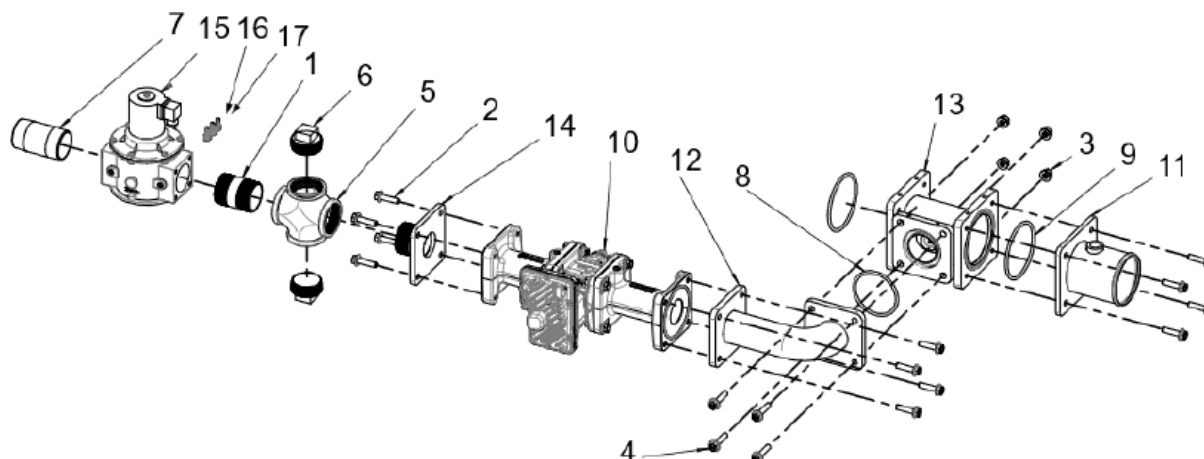
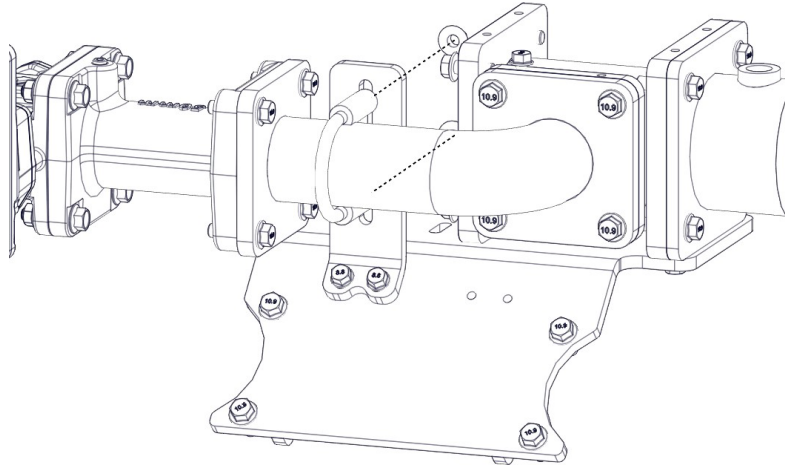
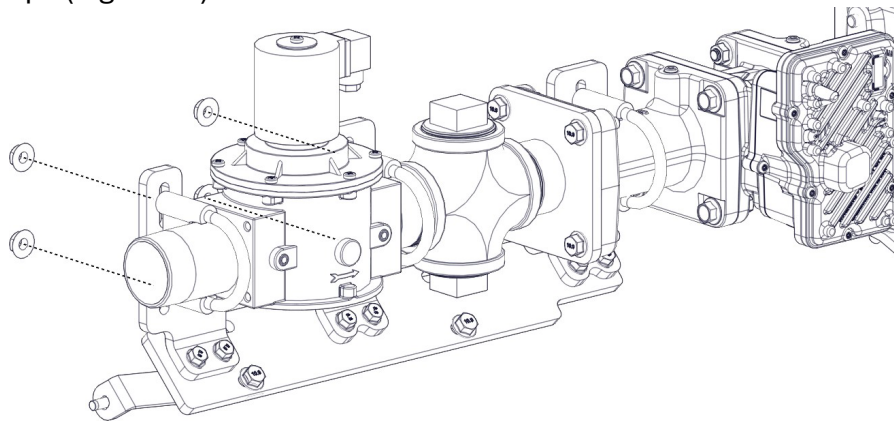

Figure 24. Fuel System Assembly
Figure 29.
Figure 34.
2. Loosen and remove the U-bolts on the adapter (Figure 24, item 12).
3. Loosen and remove the U-bolts on the Mass Flow Gas (MFG) Valve (Figure 24, item 10).
5. Remove the adapter (Figure 24, item 12).
8. Remove the MFG Valve (Figure 24, item 10).
9. Remove the lock off valve (Figure 24, item 15).
1. Place the nozzle (Figure 24, item 13) on top of the MFG bracket.
3. Secure the nozzle adapter (Figure 24, item 12) by inserting and torquing down the U-clamps (Figure 29) to 12 ft/lbs.
4. Insert the MFG Valve (Figure 1, item 10) onto the open end of the adapter (Figure 24, item 12).
7. Place the Lock-off valve kit (Figure 24, items 15 and 5) onto the open end of the MFG Valve (Figure 24, item 10).
10. Secure the Lock-off valve kit (Figure 24, items 15 and 5) by inserting and torquing down the U-clamps (Figure 34) to 12 ft/lbs.